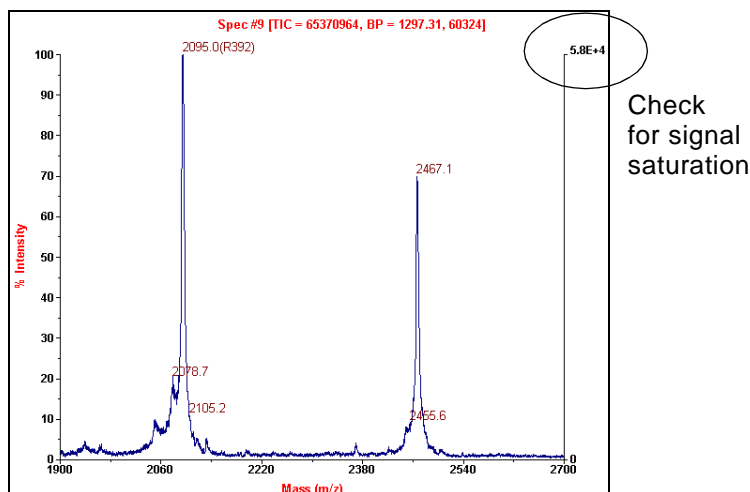

Figure 6-4 Checking for Signal Saturation
1. Examine the number at the top of the right axis in the Current Spectrum trace to determine if signal is saturated (Figure 6-4). Signal with counts greater than 64,000 may be saturated. Adjust the laser intensity as needed.